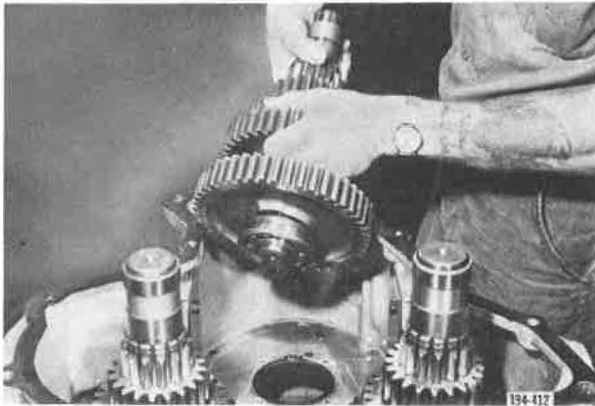

Figure 5-597. Removing Front Countershaft Assemblies
9. Place transmission front case vertically and remove the three countershaft assemblies from case. See Figure 5-597.